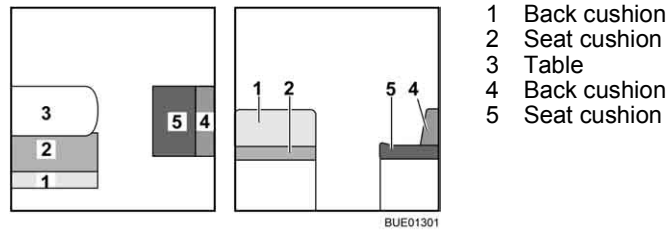

Fig. 129 Prior to conversion
- Convert the table (Fig. 129,3) to a bed foundation (see section 6.11).
- Remove the back cushion (Fig. 129,1) and lay it aside.